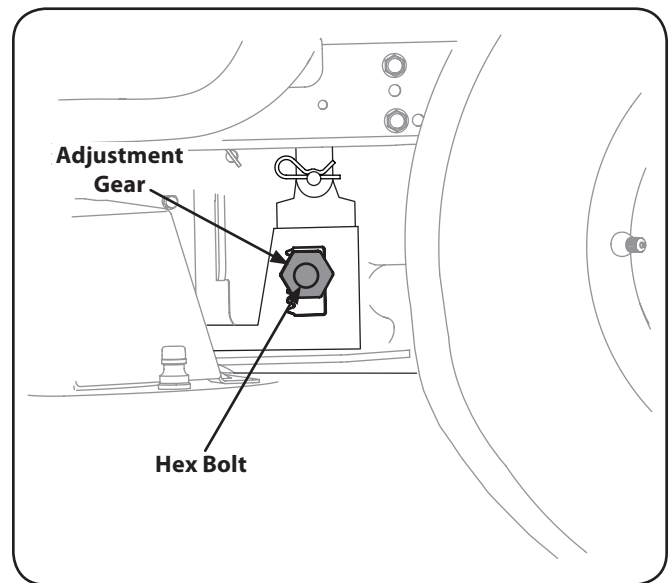

Figure 6-5
3. Loosen, but do NOT remove, the hex bolt on the front left deck hanger link. See Fig. 6-5.
4. Using a wrench, raise or lower the left side of the deck by turning the adjustment gears. See Fig. 6-5.
5. Loosen, but do NOT remove, the hex bolt on the left and right rear deck hanger brackets. See Fig. 6-5.
6. Using a wrench, raise or lower the left and right side of the deck by turning the adjustment gears. See Fig. 6-5.